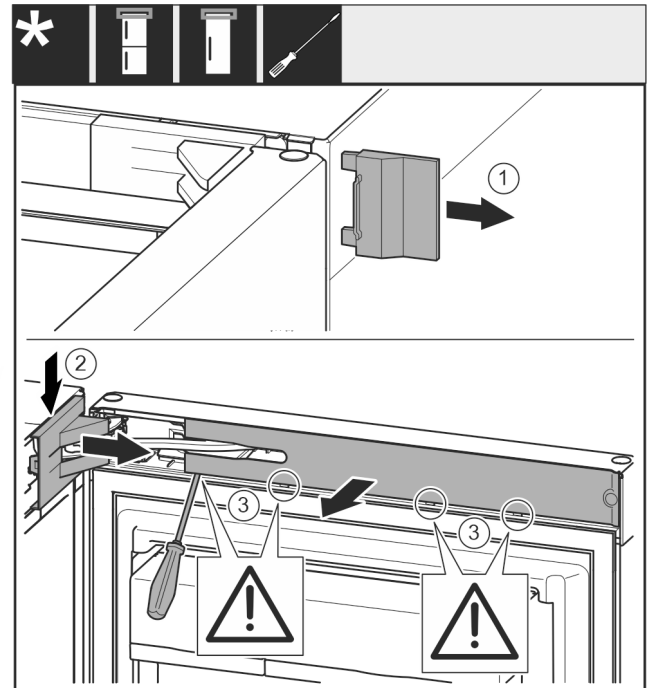

Fig. 12
- Remove cover Fig. 12 (1).
- Disengage and loosen the swap bearing block cover Fig. 12 (2).
- Remove the swap bearing block cover Fig. 12 (2).
- Use a slotted screwdriver to unlatch the trim Fig. 12 (3) and swing it to the side.